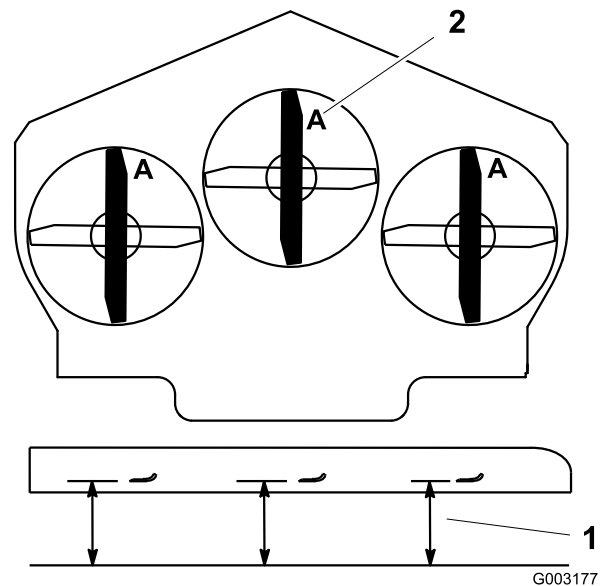

Figure 102
4. Measure from a level surface to the cutting edge, position A, of the blades (Figure 102).